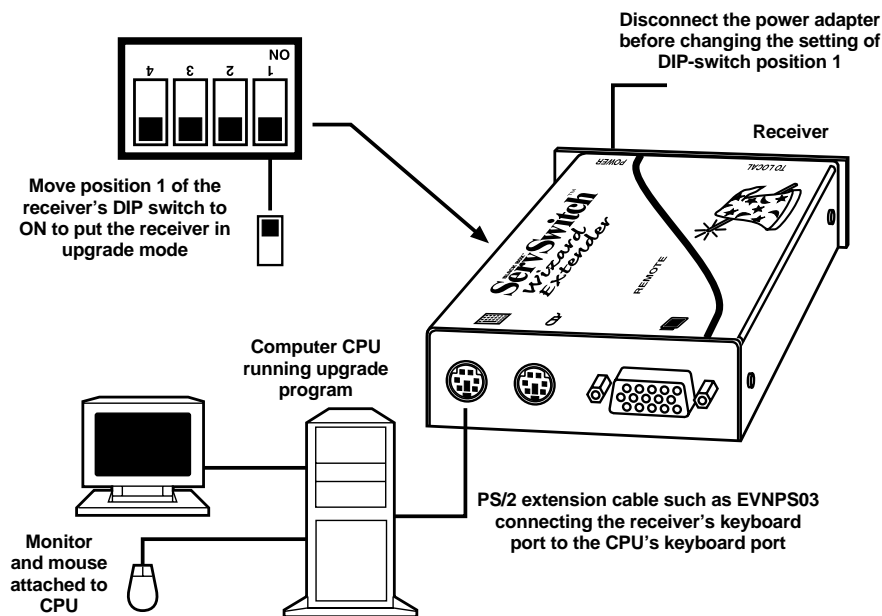

**Figure 6-1. Upgrading the transmitter.**
5. Connect the transmitter to the computer that will be running the upgrade program as shown in Figure 6-1. You only need to connect the keyboard strand of the three-to-one cable between the transmitter and the computer. Plug the monitor and mouse directly into their normal ports on the CPU. Plug the monitor and mouse directly into their normal ports on the CPU.